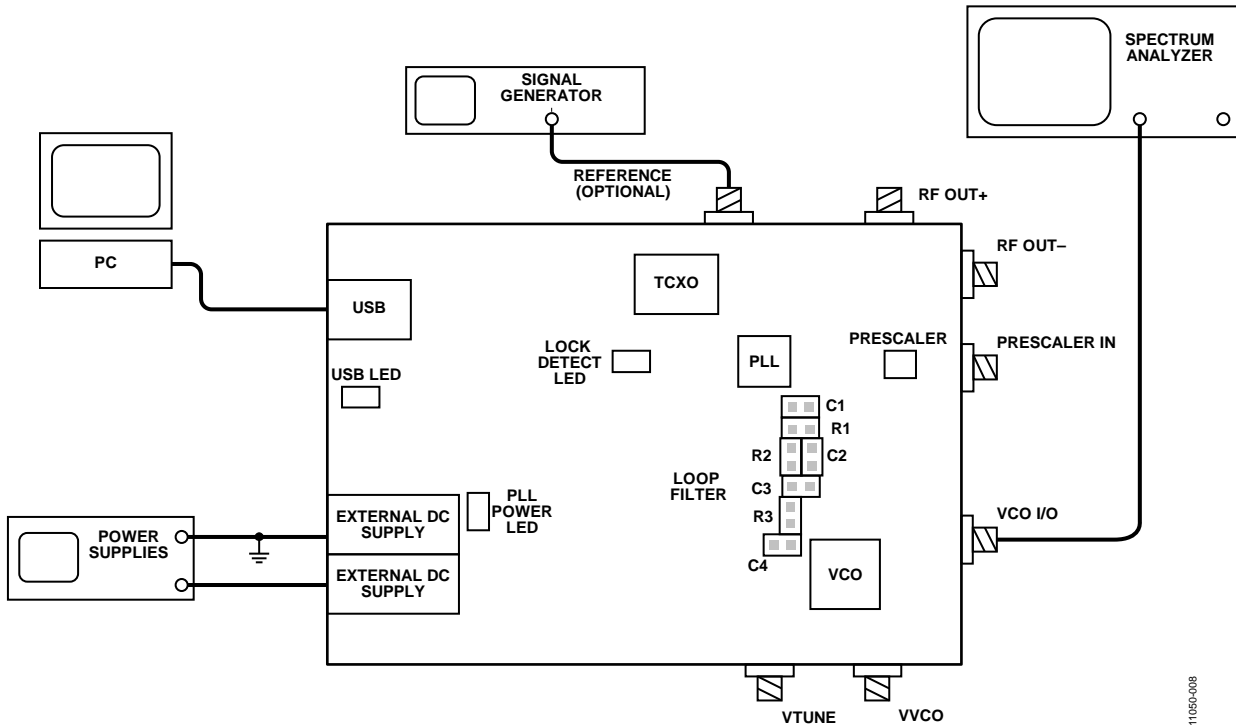

Figure 8. Typical Evaluation Setup
10. In the **Main Controls** panel, set the RF frequency, PFD frequency and reference frequency. See Figure 8 for the suggested setup.